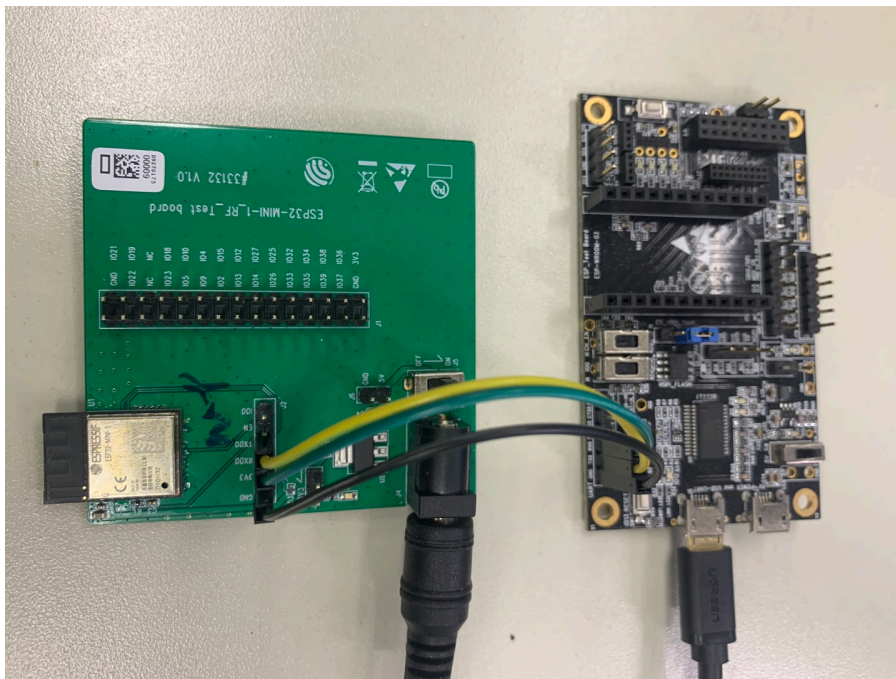

Figure 2: Hardware Connection
1. Solder the ESP32-S2-SOLO-2U module to the RF testing board as shown in Figure 2.